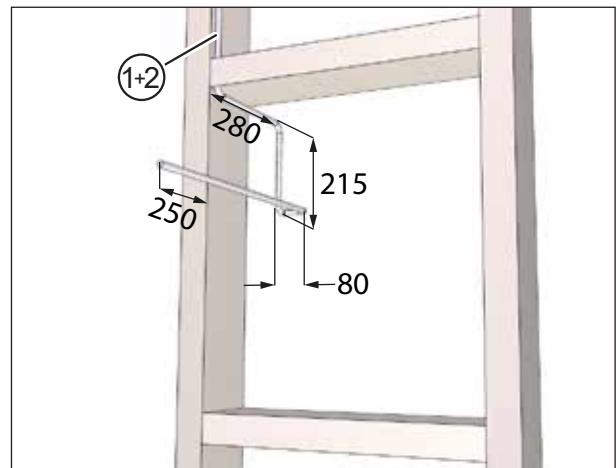

Fig. 17: Running the connecting cables, dimensions in millimetres
- ▶ Run the mains cable (item 1 in Fig. 17) and the control cable, if required (item 2 in Fig. 17). The cables should extend roughly 250 mm beyond the wall.
- Fill all gaps between the wall box and frame construction fully with insulating material (item 1 in Fig. 17) or using another suitable filling material.